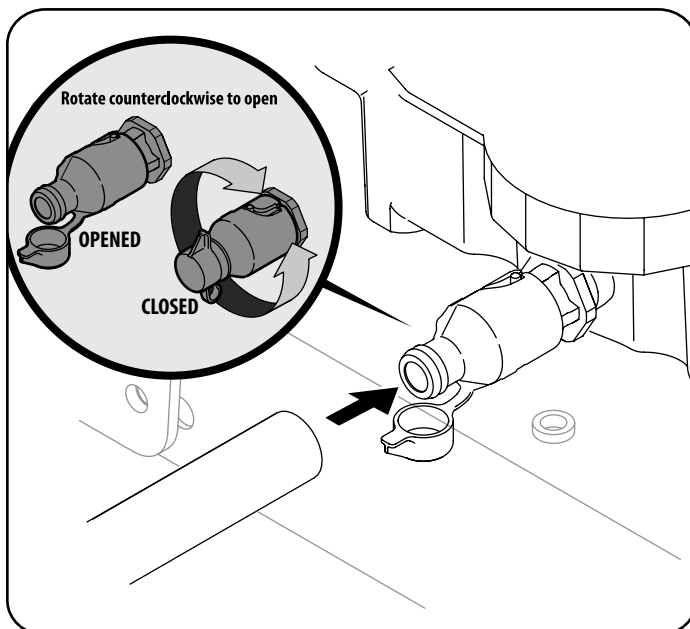

Figure 16
3. Open the protective cap on the end of the oil drain valve to expose the drain port. See inset of Figure 16.
6. Slightly push in on the oil drain valve and rotate counter-clockwise to open and allow the flow of oil. See Figure 16.